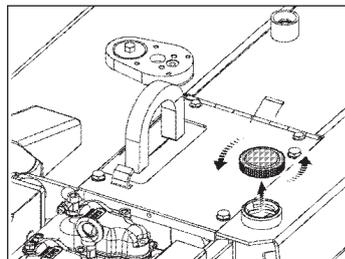

Fig. BA3 Opening the tank cover
- ➔ Opening the tank cover (Fig. BA3).